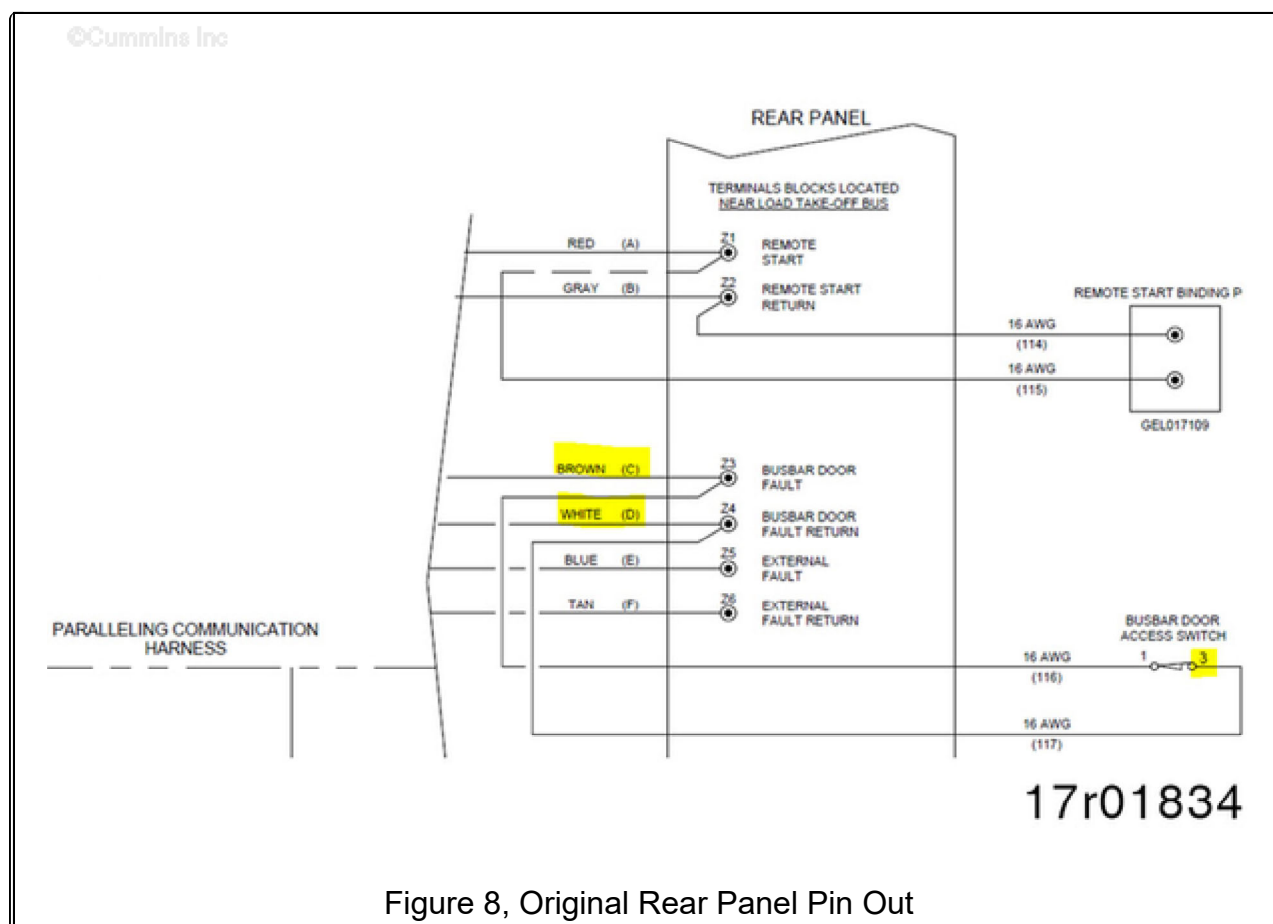

Figure 8, Original Rear Panel Pin Out
8. At the rear customer connection panel, remove the customer connection cover panel and remove wire "C" (Brown) from TB-Z3 and move it to TB-Z14 (See Figure 8).
9. Remove wire "D" (white) from TB-Z4 and move it to TB-Z15 (see Figure 8).
10. On the busbar door switch, remove the wire from pin 2 (normally closed) and move it to pin 3 (normally open) (see Figure 8).